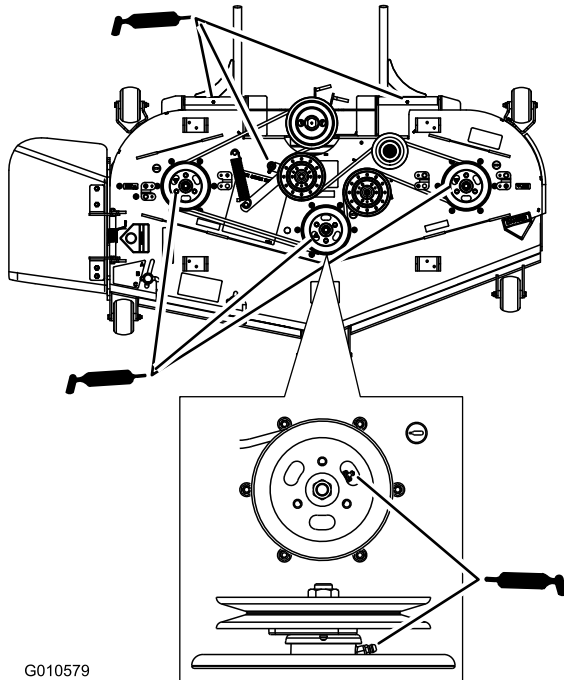

Figure 38
4. Grease the three spindle bearings under the pulleys until grease comes out the lower seals (Figure 38).
5. Grease the idler arm on the mower deck (Figure 38).
6. Grease the fittings on the push arms (Figure 38).